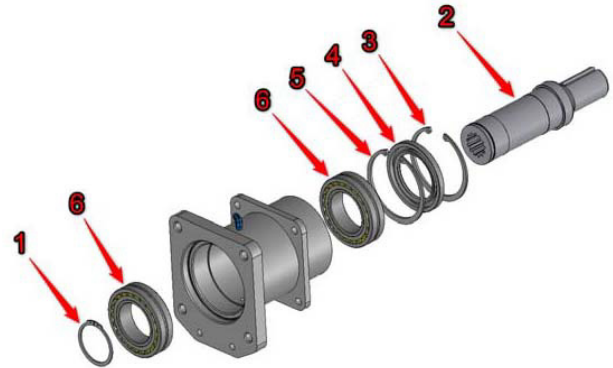

Figure 32
1. Pack grease in the bearing. Fill the space in between the internal rollers on both sides of the bearing, then insert the bearing into the overhung load adapter case (Figure 32).